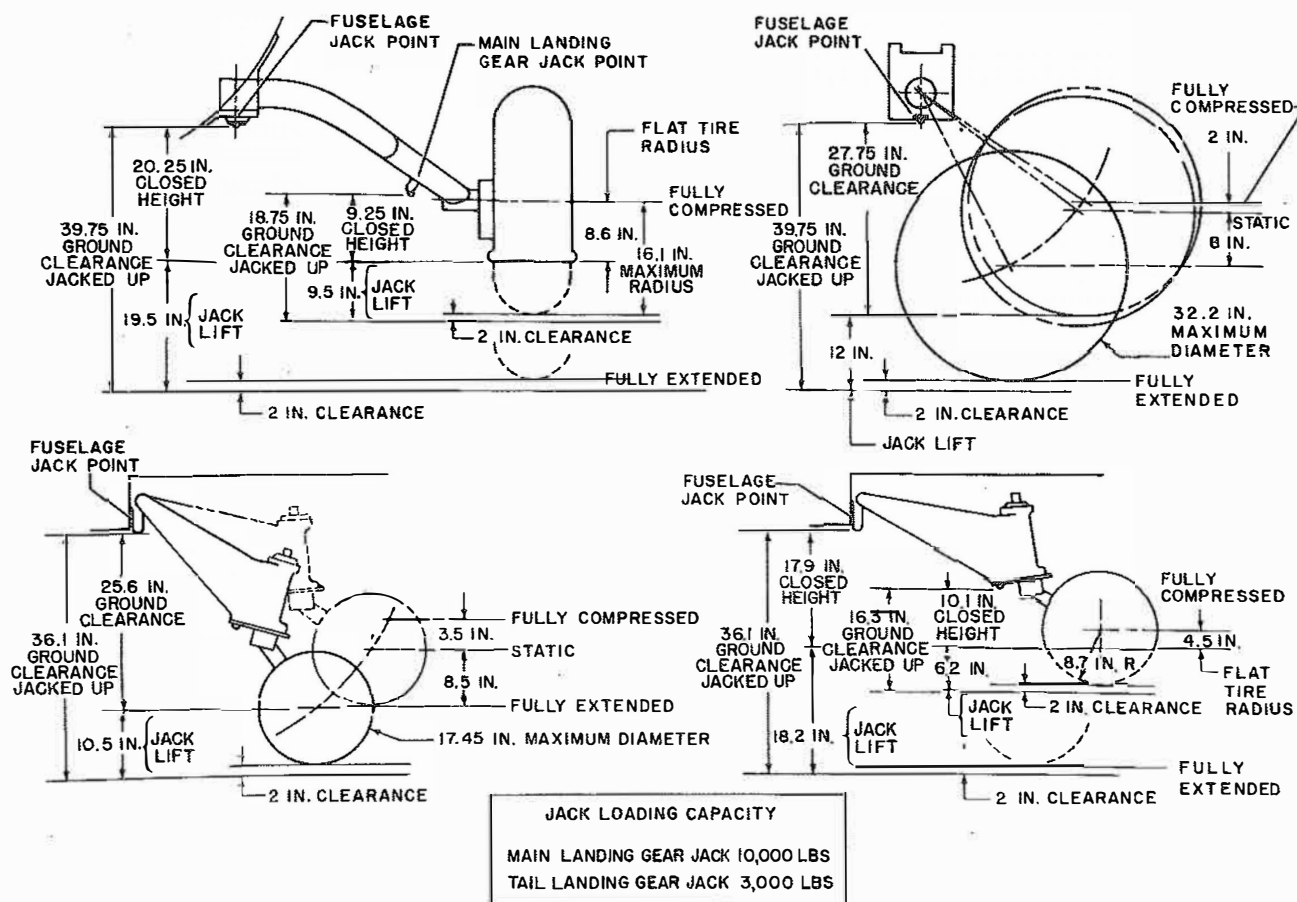

Figure 1-7. Jacking Helicopter
(See figure 1-7.)
a. Jack the helicopter at the jack pads on the two main landing gear fittings and at the jack pad on the fitting on the bottom of the tail cone. (See figure 1-7.)
a. Jack the helicopter at the jack pads on the two main landing gear fittings and at the jack pad on the fitting on the tail cone. (See figure 1-7.)